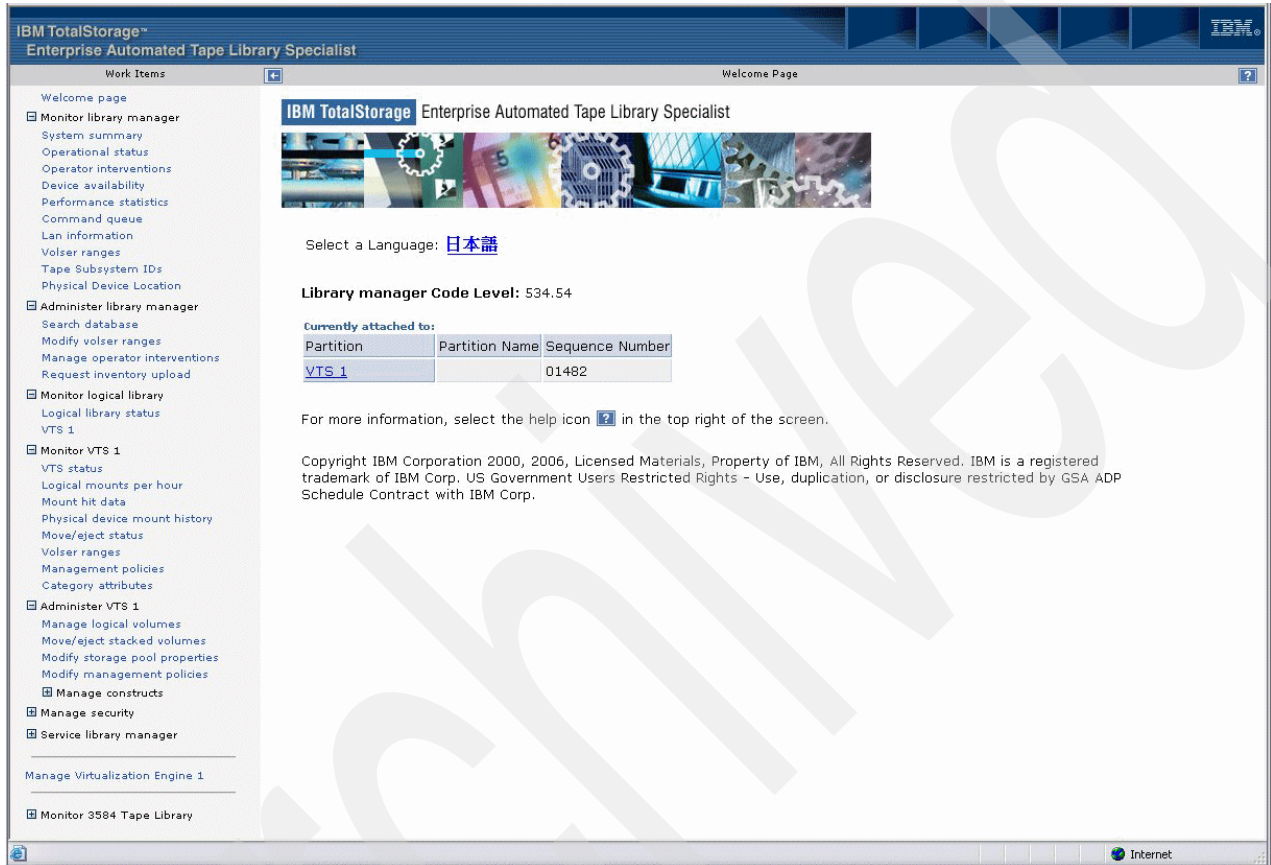

Figure 4-9 IBM 3953 Enterprise Tape Library (ETL) Specialist
Most of the tasks can be performed either through the Library Manager console or through the Enterprise Tape Library (ETL) Specialist, the Web-based browser interface to the Library Manager. Some configuration tasks, for example inserting of logical volumes, have moved to the TS7700 Management Interface (MI). We show the ETL Specialist panels and the MI panels for those tasks that can be performed using these interfaces. Figure 4-9 shows the ETL Specialist Home Page for the 3953 Library Manager. The 3494 Web Specialist panel is similar and is shown after the 3953 panel.